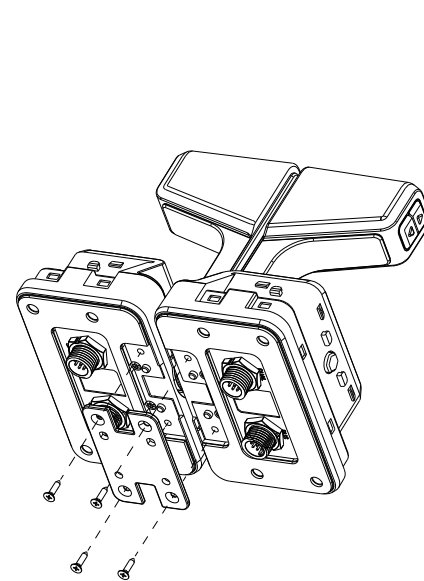

Figure 3-7
- Align the throttles with the four holes of the dual installation bracket and pay attention to the installation direction. Install the throttles with the bracket and tighten the bolts (figure 3-7).